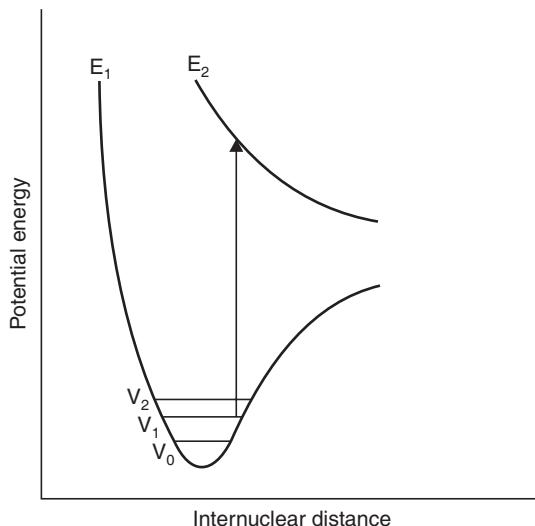

Fig. 25.3 Promotion to a dissociative state results in bond cleavage.
(3) In some cases as in Fig. 25.3, the excited state entirely leads to dissociation. E.g., is the $\sigma - \sigma^*$ promotion in hydrogen molecule leading to cleavage. The photolytic cleavage may break the molecule into two smaller molecules or into free radicals. Free radicals behave in a similar way like free radicals produced in other processes, except that the former are in excited state. Rarely the molecule breaks into two ions.